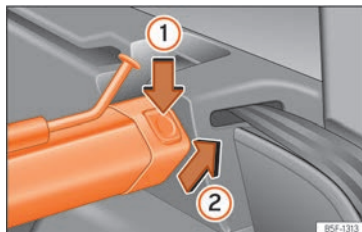

Fig. 126 In the luggage compartment: removing the net partition.
- Press the left or right release catch » Fig. 126 in the direction of the arrow (1).
- Remove the casing from the support in the direction of the arrow » Fig. 126 (2).
- Press the casing into the left and right supports in the opposite direction to the arrow » Fig. 126 (2) until it engages.